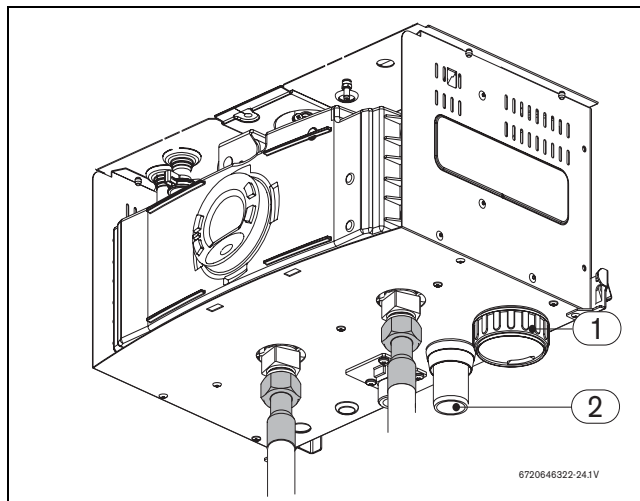

Fig. 27
i Make sure that connections doesn't obstruct access to the condensate trap cover (→ Fig. 27, pos. 1).